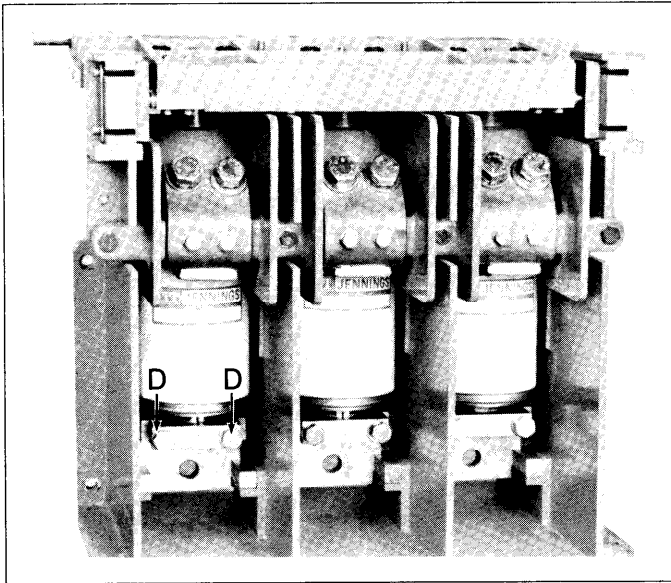

Figure 7. Loosening the clamp block screws.
3. Loosen the two (2) clamp block screws (Item D, Figure 7) until the interrupter alignment ball is free to rotate.